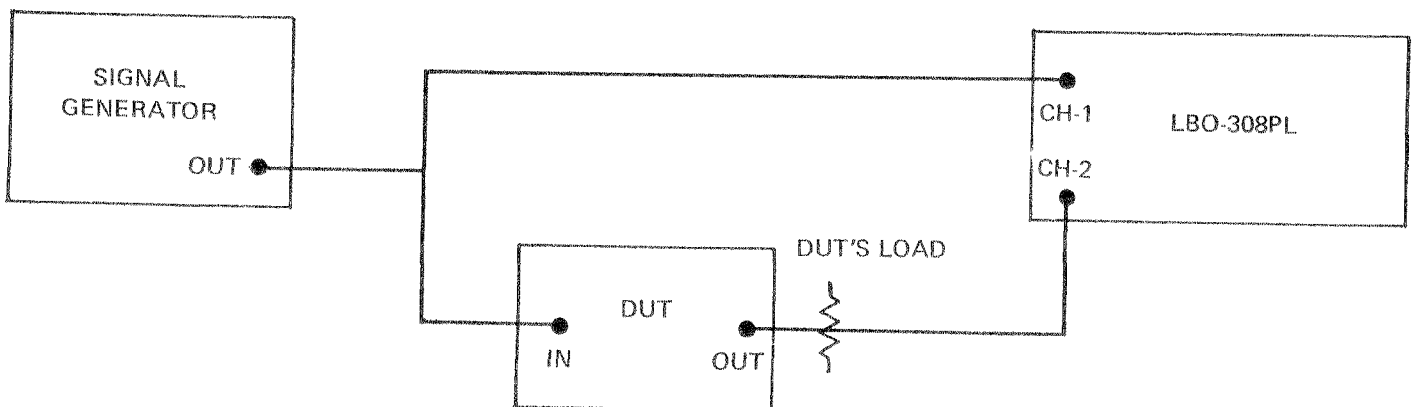

Figure 2-17. Test Setup for Distortion Comparison and Phase Measurement.
Phase difference or phase angle between two signals can be measured using the dual trace feature of the oscilloscope or by operating the oscilloscope in the X-Y mode. When measuring phase shift of signal-processing devices, the test setup shown in Figure 2-17 can be used.
1. Connect the output of a signal generator (of frequency suitable to the device under test) to the CH-1 Input connector (8) and the input of the device under test (DUT).
2. Connect the CH-2 Input connect (9) to the output of the device or its load (see Figure 2-17).
4. If the DUT has reversed the phase, press the CH-2 POL pushbutton (16).
5. Superimpose the two traces with the Vertical Positioning controls (13) and (14), and use the VARIABLE VOLTS/DIV control (11) of the *largest* trace to achieve the best trace match.